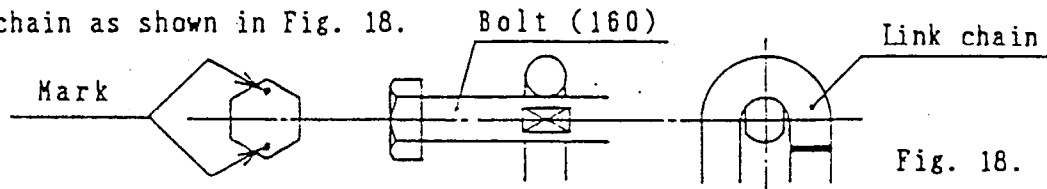

Fig. 18.
Bolt (160) should be adjusted to the link chain. Using those marks which is stamped at the head of the bolt (160), adjust positions of the bolt to the link chain as shown in Fig. 18.